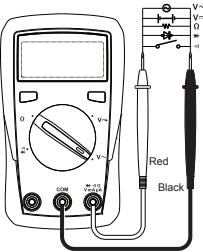

Figure 2a
- AC/DC Voltage Measurement** (see Figure 2a)
- Resistance Measurement** (see Figure 2a)
- Continuity Measurement** (see Figure 2a)